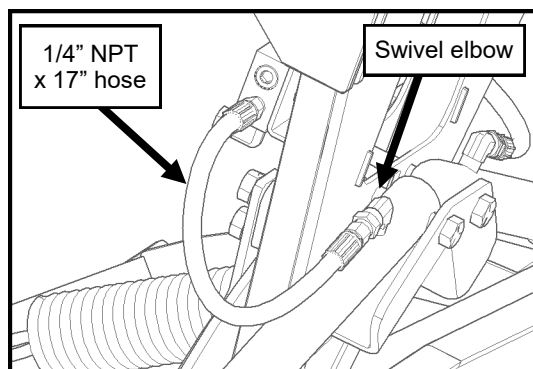

Fig. 5.4—17" Hoses to Cylinders
5.4 Attach and tighten the free end of each of the 1/4" NPT x 17" long hoses, (previously installed in the crossover relief valve block) to the swivel elbow in its respective angle cylinder. See Fig. 5.4.